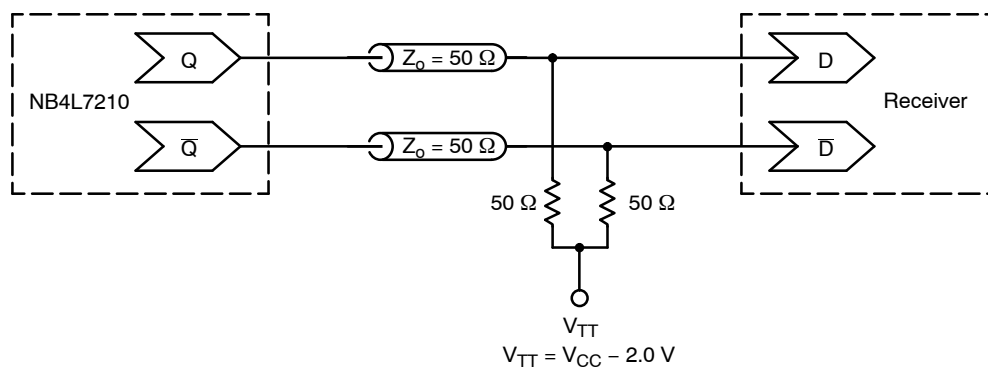

Figure 16. Typical Termination for Output Driver and Device Evaluation
- Input and Output parameters vary 1:1 with V_{CC} . Outputs loaded with $50\ \Omega$ to $V_{CC} - 2.0\text{ V}$ (See Figure 16) except SDATAOUT.
6. Measured by forcing V_{INPP} (Typ 750 mV_{PP}) from a 50% duty cycle clock source. Q/\overline{Q} Outputs loaded with 50 Ω to $V_{CC} - 2.0\text{ V}$ (See Figure 16). SCLK, SDATA and SLOAD at LOW SDATAOUT loaded 20 k Ω and 15 pF to GND.